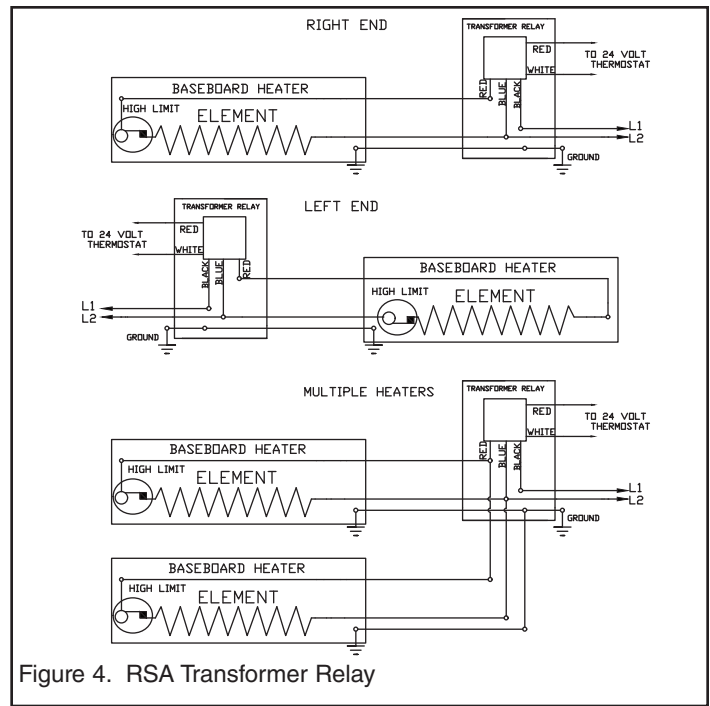

Figure 4. RSA Transformer Relay
5. Push the red and white transformer wires through the hole in the top of the baseplate. Make 24V thermostat connections in the compartment formed by the baseplate and the top of the wiring compartment. (See wiring diagram Figure 4).